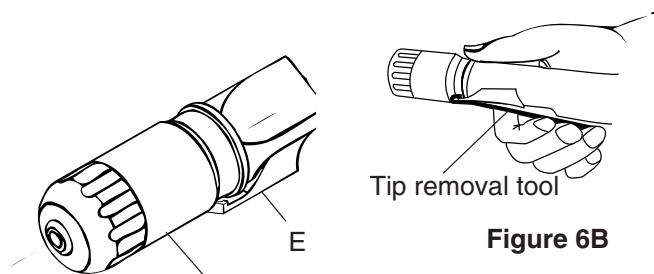

Figure 6B
- To remove the tip body (D) place the tip body removal tool on the tip security lever (E) fig. 6A. Squeeze and hold as shown in fig. 6B while unscrewing the tip body.